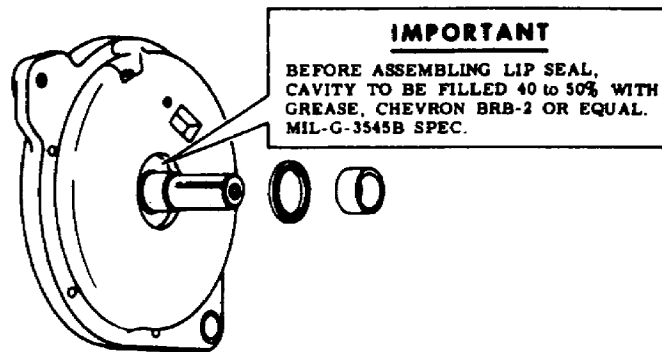

Figure 12. Stator housing.
d. If the bearings are to be replaced, special care must be used to avoid damage. When pressing a bearing onto the shaft, apply pressure to the inner race with a suitable tool. When pressing a bearing into a housing, press only on the outer race. This will avoid applying force through the bearing balls, which could damage the bearing. When replacing the lip seal, pack with grease as shown in figure 12.